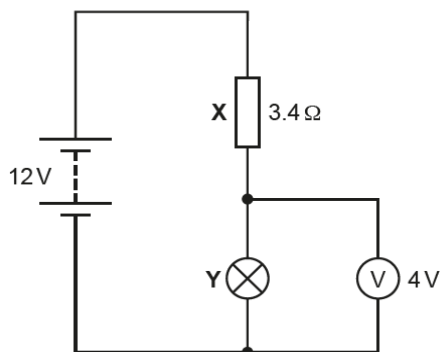

Fig. 1
1 (a) A student uses the circuit shown in Fig. 1 to investigate the characteristics of a filament bulb.
- (b)* A new working **identical** bulb is put in the circuit in Fig. 1. The resistor **X** is changed to one with a resistance of 6.9Ω . A student calculates that the voltage across resistor **X** will now be 6.0V. Using ideas about current, temperature and the structure of metals explain whether or not the student is correct.